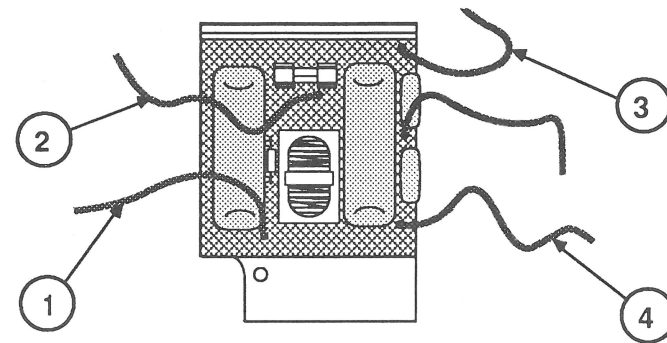

FIGURE 35
3. Mark the wires connected to the noise filter PCA as shown in Figure 35.
1. Solder each of the wires to the noise filter PCA. Match the numbers marked on the wires with those in Figure 35 for correct placement.